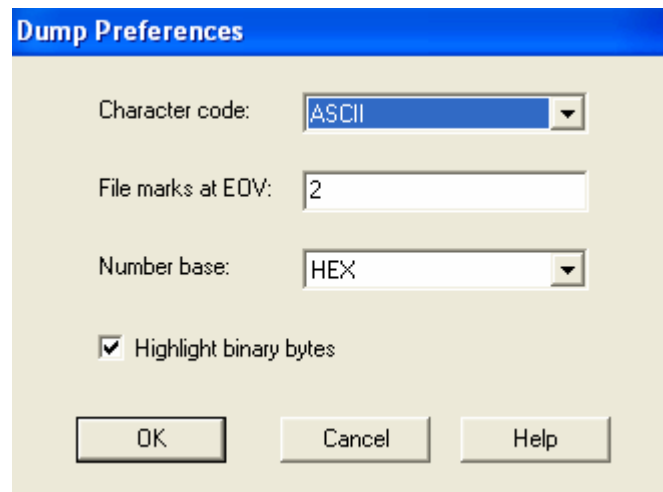

Figure 80: Dump Preferences Dialog Box
6. **Preferences:** Allows the user to alter or display the current dump mode options via the dump preferences dialog box. The hotkey used to display the dump preferences dialog box is F2. The dialog box is shown in Figure 80: Dump Preferences Dialog Box.